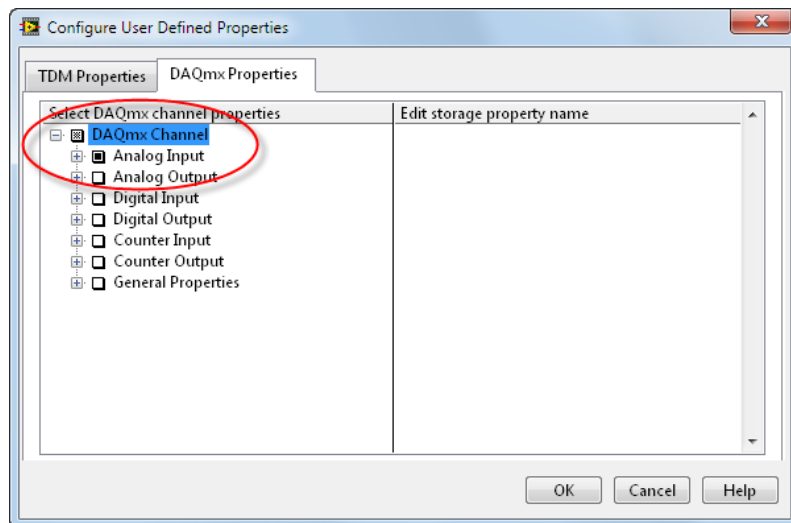

Figure 20. With the NI-DAQmx driver, you can automatically log all acquisition settings to TDMS properties for future reference.
- a. Wire the purple **Task Out** output of the DAQmx Read.vi to the **DAQmx Task** input of the Write to Measurement File Express VI as shown in Figure 20.